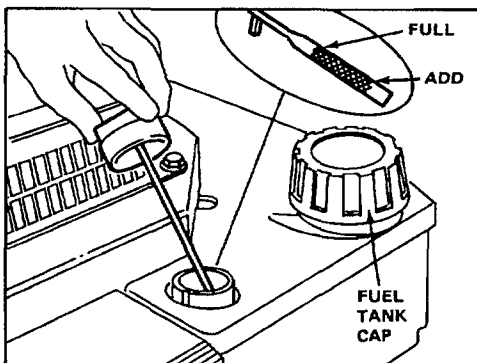

Figure 4
3. Wipe dipstick and insert it into filler neck. Rotate cap clockwise 1/4 turn. Then remove dipstick and check level of oil (Fig. 4). If level is low, add only enough oil to raise level to FULL mark on dipstick. DO NOT FILL ABOVE FULL MARK BECAUSE ENGINE COULD BE DAMAGED WHEN STARTED.
1. Clean around fuel tank cap and remove cap from tank (Fig. 4). Using unleaded gasoline, fill fuel tank to within 1/2 inch (13 mm) from top of tank.